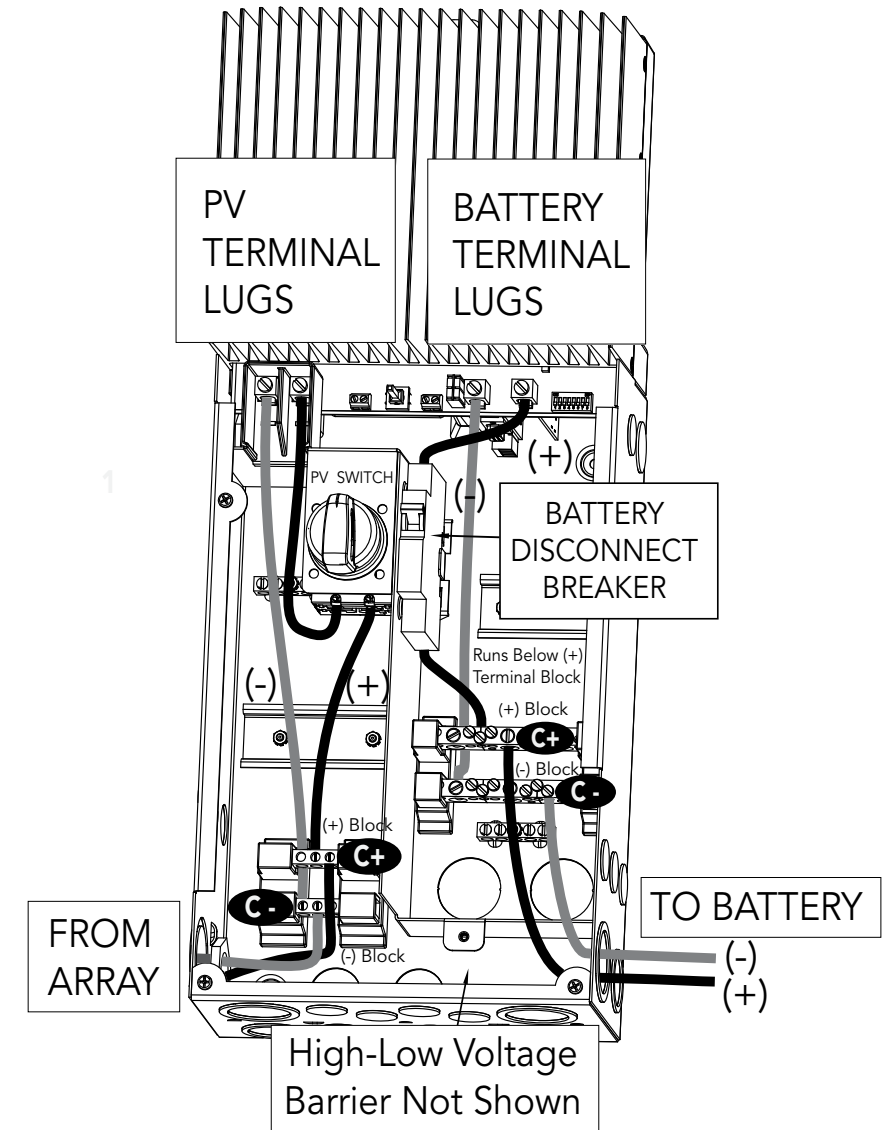

Figure 3-15. Power Terminal Locations
Connect the four (4) power conductors shown in Figure 3-15 as described in the following steps:
- Pull solar and battery wires into the Disconnect Box (DB). The Remote Temperature Sensor (RTS) and Battery Sense wires can be routed inside conduit with the battery power conductors, if required. Unless rated for 600V, the RTS and Battery Sense wires CANNOT be routed in the same conduit with the high voltage solar conductors. It is easier to pull the RTS and BVS wires before the power cables.